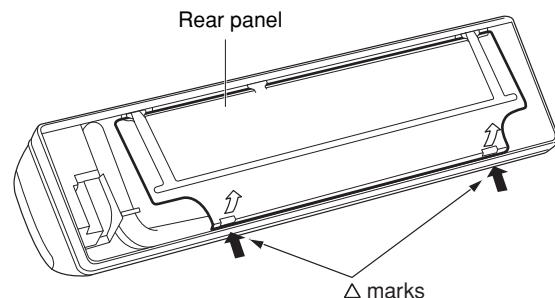

Fig. 7a
- (2) Press the 2 \triangle marks on the frame cover and disengage the stationary tabs from the frame. (Fig. 7a)